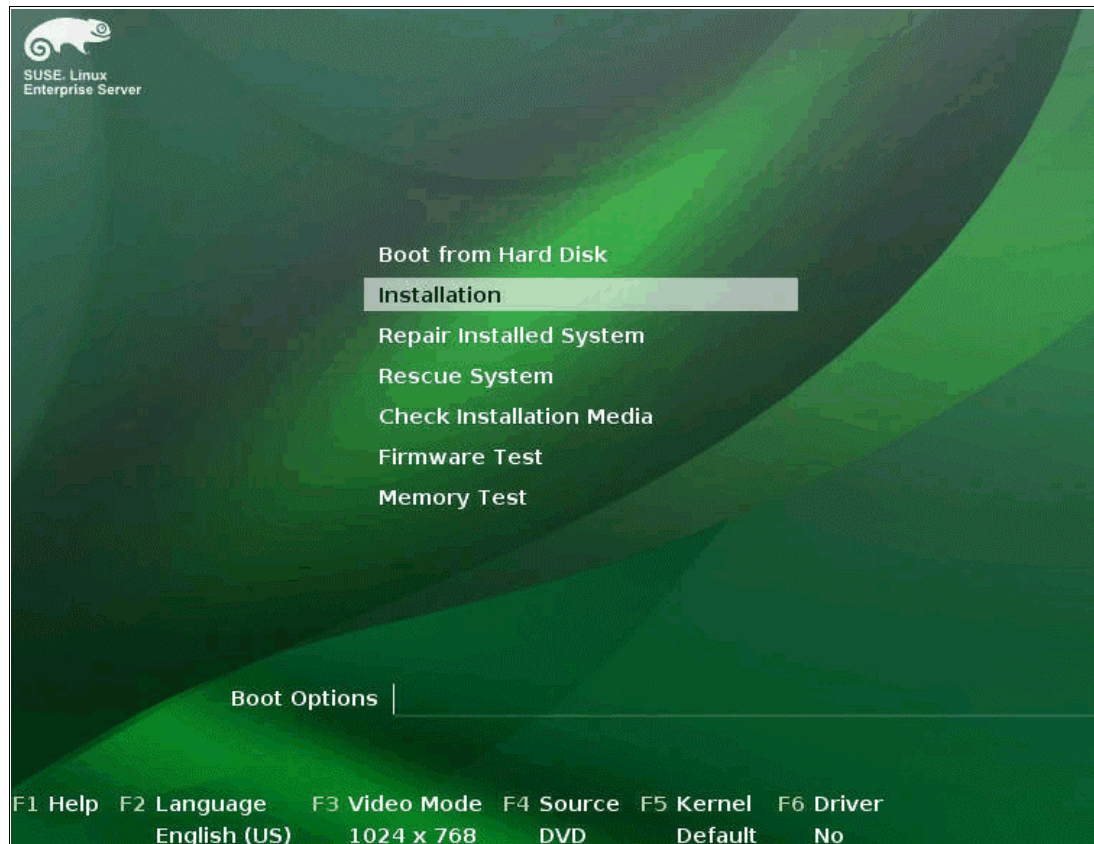

Figure 5-97 Welcome to SUSE Linux Enterprise Server 11 installation
4. After initializing the installation process, you come to the first window that gives various startup options. Choose **Installation** at the *Welcome* panel, as shown in Figure 5-97.